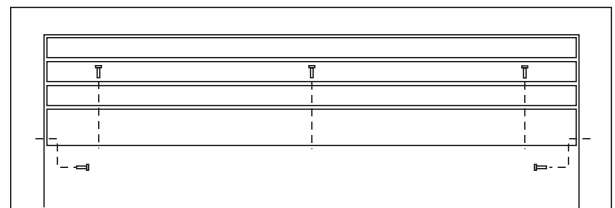

Figure 10 -
2. Align canopy with the holes in the top frame assembly. *Figure 10*
3. Install the five (5) screws (in owner's manual packaging) which attach the canopy to the top frame assembly. *Figure 10*